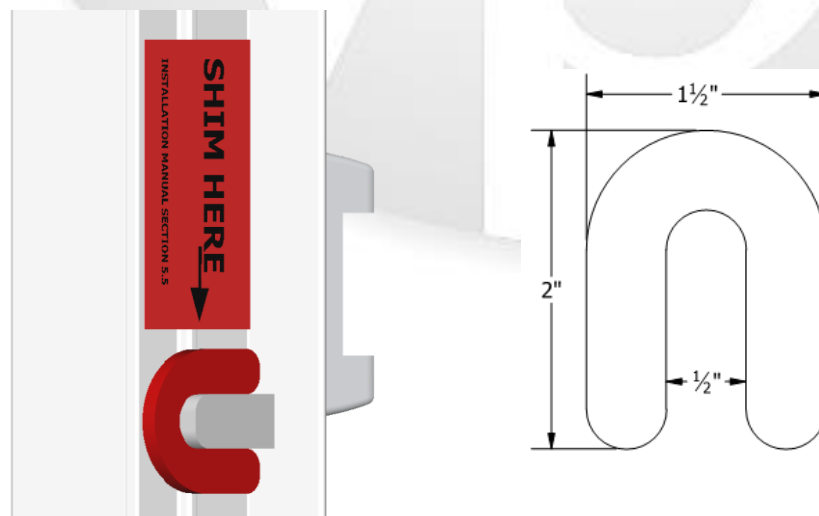

Figure 11: Jamb Shim Shelf Application
- I) Shims must be constructed from high impact non-deteriorating and corrosion resistant material such as PVC or similar plastic. Horseshoe shims as shown in *figure 11* are recommended and will be needed in various thicknesses to achieve proper installation.
C) A “SHIM HERE” label in addition to a VPI Shim Shelf foam block as shown in *figure 11* is included at all required jamb shim locations. The Shim Shelf will provide a safety net to keep shims in place during the remainder of the installation process. Shims of the size in *figure 11* (available from Glazelock) are an ideal fit, but most shims are compatible.